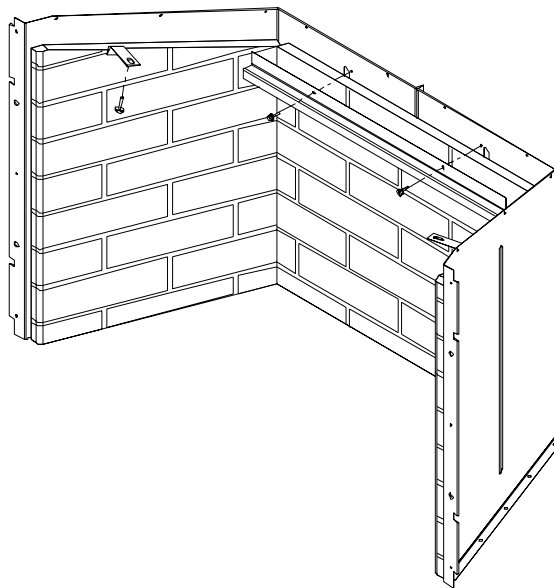

Figure 5.3 –Installation of Refractory Panels
2. Remove the lower grille from the front of the unit by unhooking each of the two (2) springs and removing one (1) of either the left or right pivot screws (see Figure 5.3).
3. Remove the bottom fireplace trim by first unscrewing the two (2) 5/16" screws on each side. Push the trim away and towards the back of the unit so as to disengage it from the fastening clips, and then pull the trim out of unit (see Figures 5.3 and 5.4).
2. Place the bottom edge of the side brick panel into the bottom side corner of the fire-box. Rotate the top edge of the brick panel up to locate the brick panel flush to side of fire-box. Secure the panel by screwing one brick panel clip into the hole on the underside of the fire-box baffle. Repeat this for the opposite panel (see Figure 5.3).
3. Before placing the bottom edge of the rear brick panel into the bottom corner of fire-box, remove the screws from the upper face of the fire-box rear. Rotate the top edge of the panel towards the back of the unit until the panel is flush with the back of the fire-box. Locate the “Z” bracket over the top edge of the brick panel and fasten with the previously removed screws (see Figure 5.3).